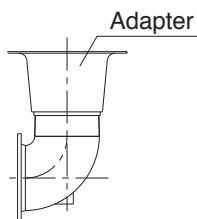

Fig.4
- Place the adapter over the elbow (see Fig.4).